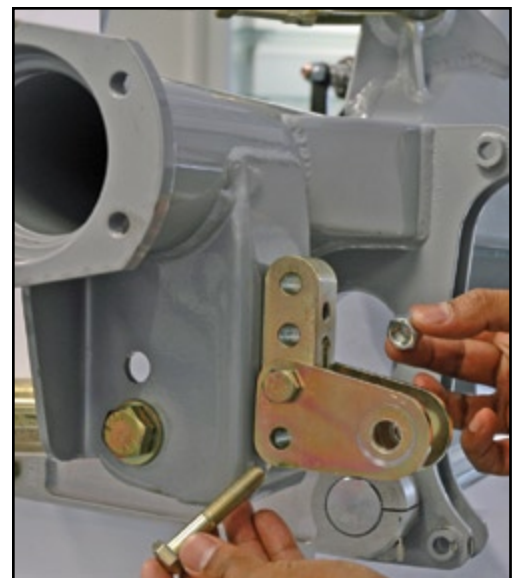

Figure 3-4
3. Bolt shock mount tabs to adjustable bar in desired position using two hex head cap screws (3/4-24 x 2") and locknuts. Tighten to 35-40 lb-ft. (Figure 3-4)